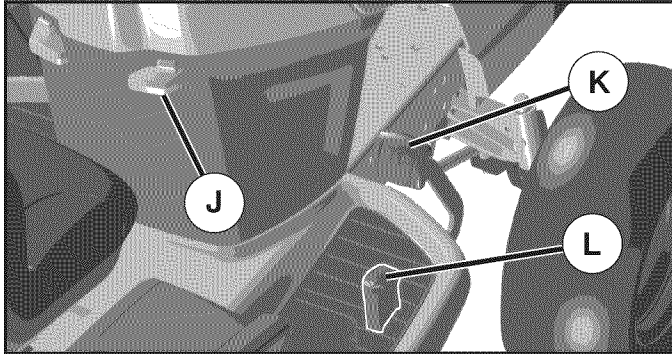

Fig. 7
- Slowly depress forward (K) or reverse (L) drive pedal to begin movement. Ground speed increases the further down the pedal is depressed.
TO USE CRUISE CONTROL (J) (See Fig. 7)